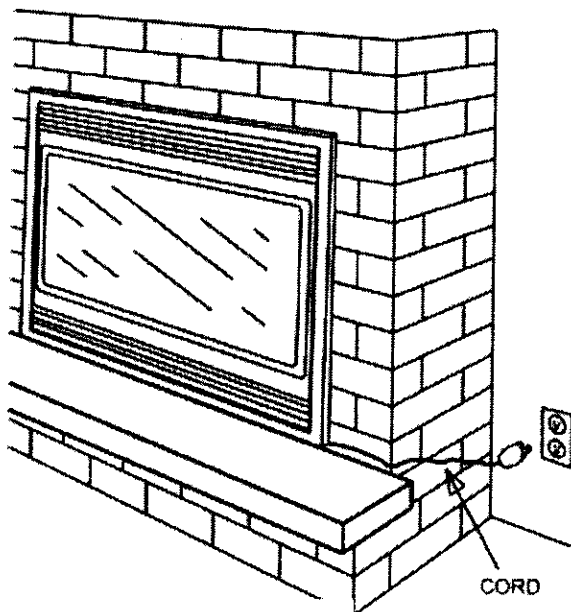

FIGURE 2
4. The power cord can run along the front of the hearth to an outlet near the fireplace (figure 2).